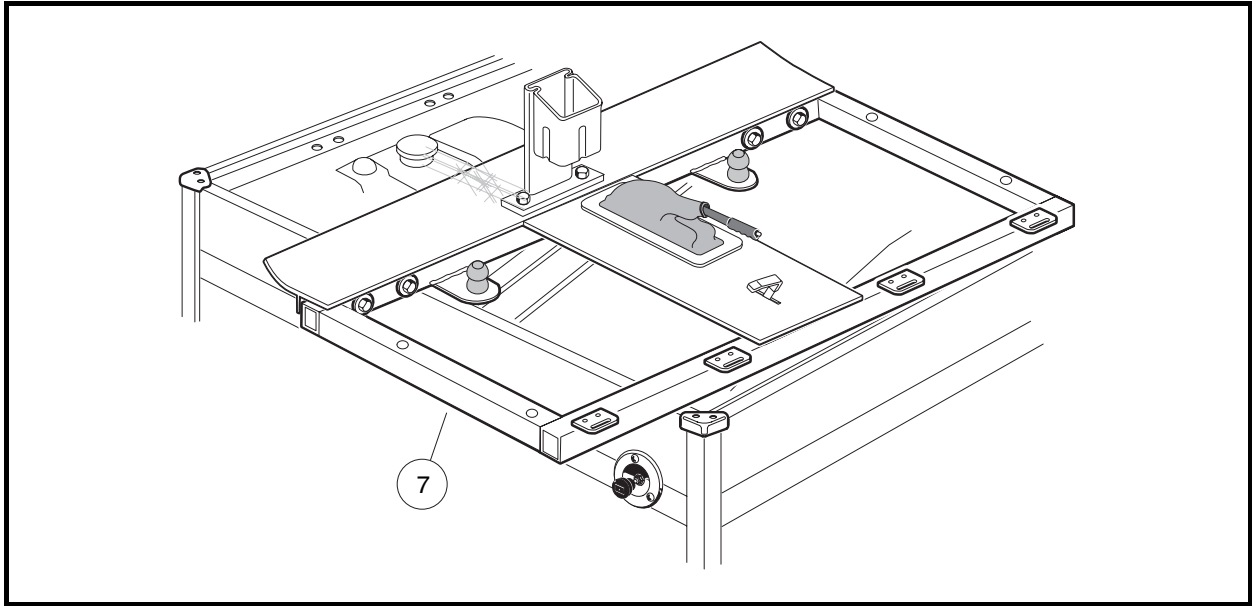

Figure 12-32 Battery Removal
- 3.3. Carefully lift and rotate the seat support (7) 90° counterclockwise and allow it to rest on the vehicle body as illustrated (**Figure 12-32, Page 12-31**). **See following NOTE.**